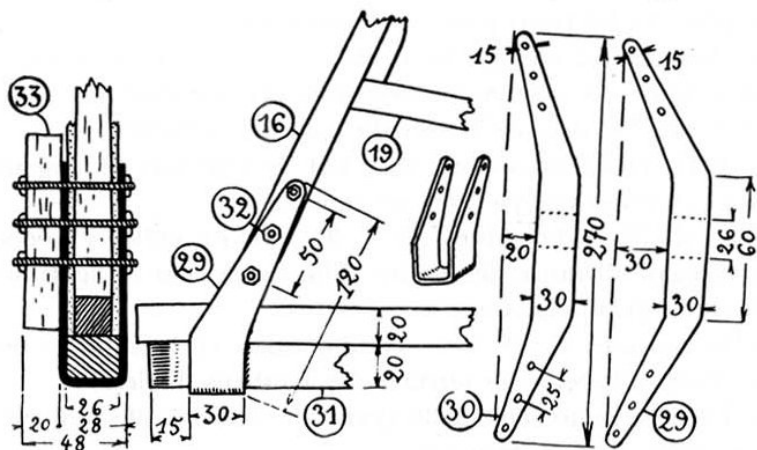

Figure 3.6: Landing gear reinforcement
In a sheet of 1mm soft steel, cut two strips (29) and (30), which, when bent, will be held in place by gluing under the lower ends of members 15 and 16 a pad, (31) (fig. 3.6) of hardwood — walnut, oak, beech, etc. —  $20 \times 26 \times 230$ . Only drill one side of these fittings for now. The other side will be drilled later when it is bound or clamped in place.